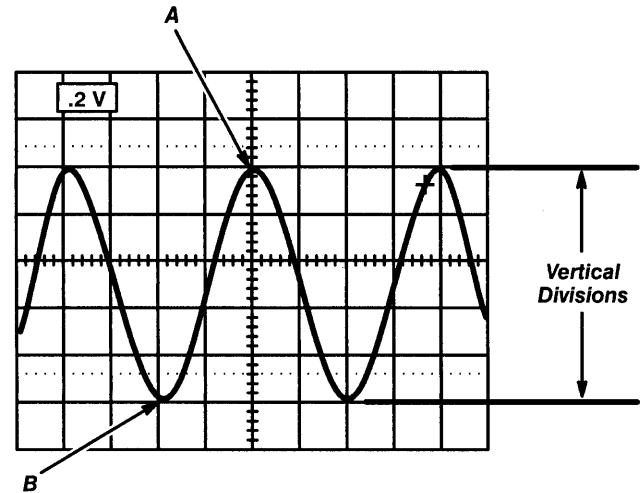

Figure A-2: Measuring Peak-to-Peak Voltages
- Step 1:** Position the waveform so that either the lowest or the highest point (peak) is at the horizontal center of the screen. In Figure A-2, the high peak is at the center of the screen. Use the vertical center line to help you.
- Step 2:** Count the vertical major and minor divisions occupied by the waveform from its high point (labeled **A** in Figure A-2) to its low point (labeled **B** in Figure A-2).
For example, Figure A-2 shows a sine wave that is five major divisions high. As the readout at the top left indicates, the vertical scale factor is 0.2 volts per division. Therefore, the peak-to-peak voltage of the sine wave is  $5 \times 0.2$ , or 1 volt.